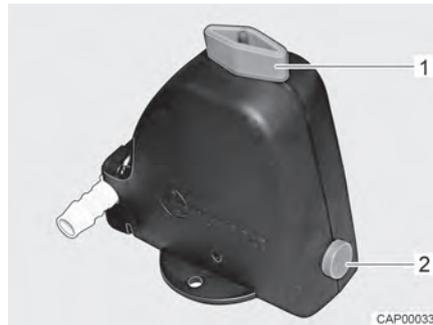
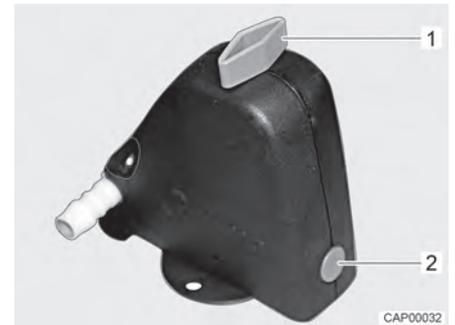

Fig. 105 Safety/drainage valve open
Fig. 106 Safety/drainage valve closed
- Close the safety/drainage valve. Turn the knob (Fig. 105,1) perpendicular to the safety/drainage valve and push the push button (Fig. 105,2) in. The closed safety/drainage valve is shown in Fig. 106. If the temperature is below 6 °C, the safety/drainage valve cannot be closed.